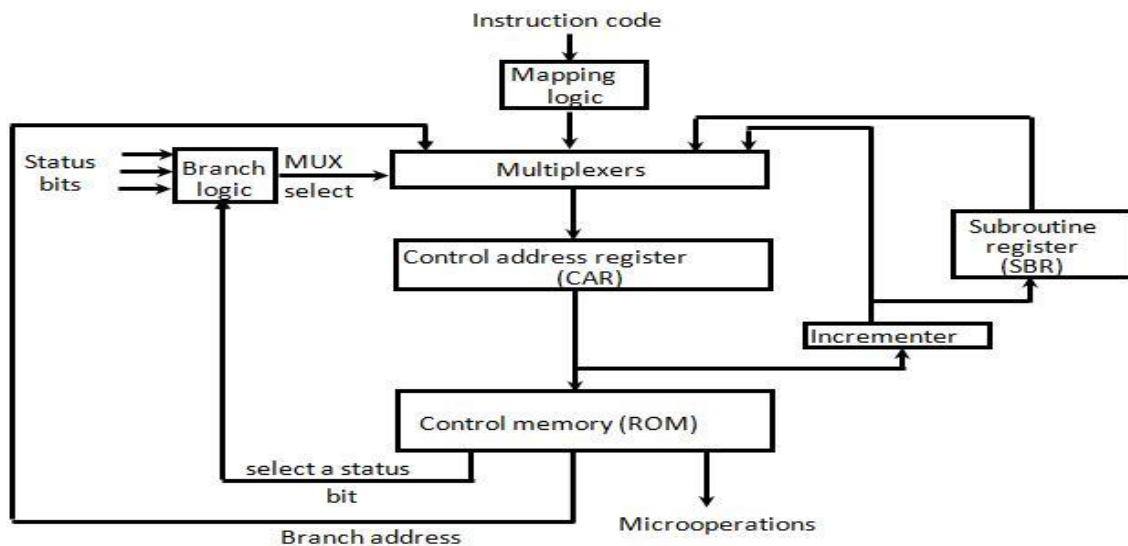

Figure 4.2: Selection of address for control memory
- Above figure 4.2 shows a block diagram of a control memory and the associated hardware needed for selecting the next microinstruction address.
- The branch logic of figure 4.2 provides decision-making capabilities in the control unit.